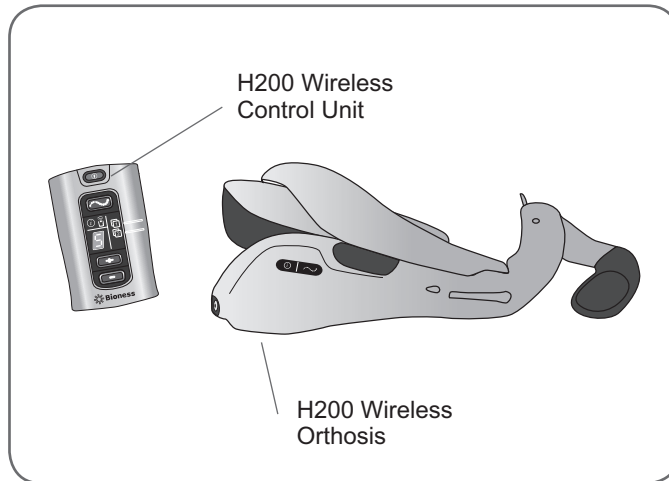

Figure 12-1: Place the components to be registered close together.
2. Place the components to be registered close together on a table, but not touching. See Figure 12-1.